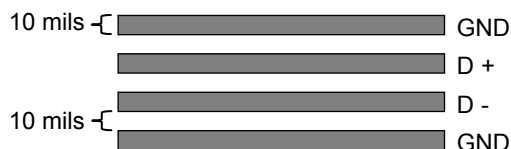

Figure 18 Recommended Remote Diode Circuit Board Interconnect
Any noise, both common-mode and differential, induced in the remote diode interconnect may result in an offset in the temperature reported. Circuit board layout should follow the recommendation of Figure 18. Basically, use 10-mil lines and spaces with grounds on each side of the differential pair. Choose the ground plane closest to the CPU when using the CPU's remote diode.
2. Match the trace routing of the D+ and D- leads and use a 1.0nF filter capacitor close to the aSC7521A. Use ground runs along side the pair to minimize differential coupling as in Figure 18.